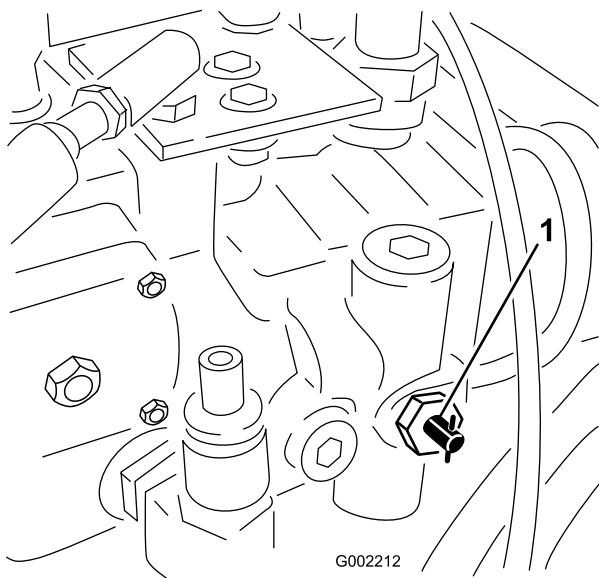

Figure 26
1. Rotate the tow valve (Figure 26) 90° in either direction to open it.